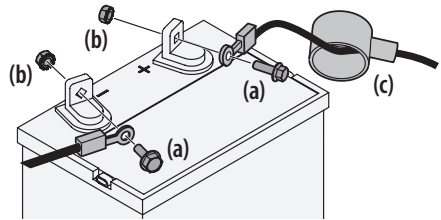

Figure 12
1. If present, remove the plastic cover from the positive battery terminal. Attach the red connector to the positive battery terminal (+) using the bolt (a) and hex nut (b). See Figure 12.
2. If present, remove the plastic cover from the negative battery terminal and attach the black cable to the negative battery terminal (-) with the bolt (a) and hex nut (b). See Figure 12.
3. Position the red rubber boot (c) over the positive battery terminal to help protect it from corrosion. See Figure 12.